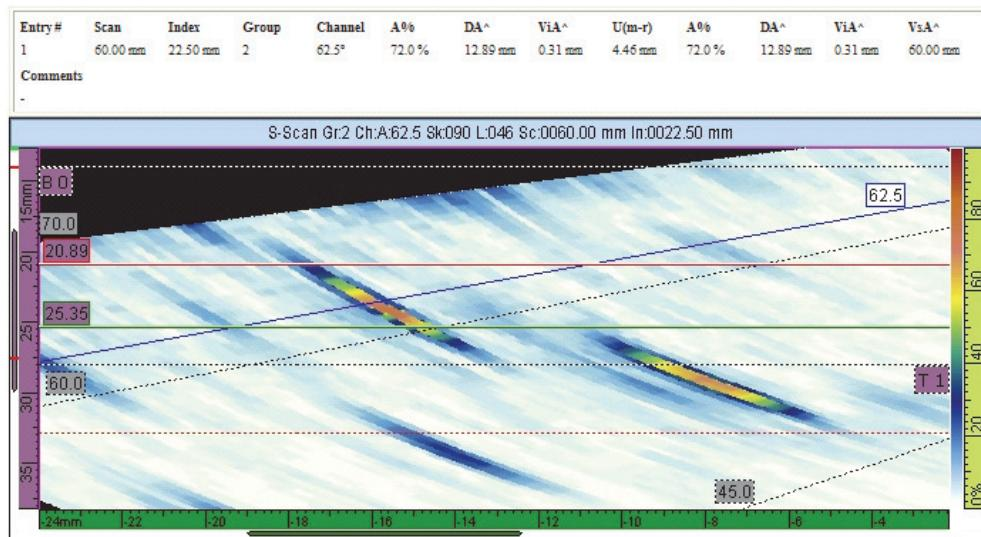

Figure 9 Example of an HTML report (part 2 of 2)
7. Choose **File > Report > Build** to display the HTML file of the report on the OmniScan screen (see Figure 8 on page 24 and Figure 9 on page 25).